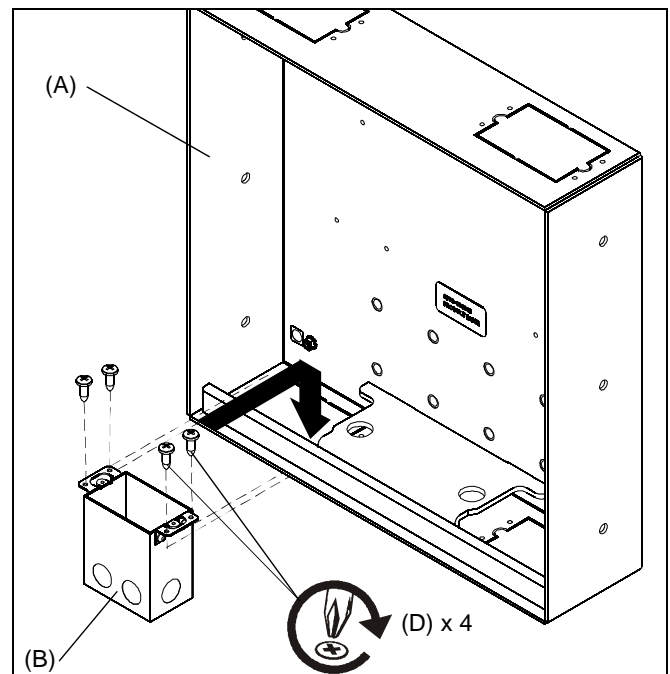

Figure 2
1. Install junction box (B) into the MAC-501 (A) using four 08 x 1/2" Phillips pan head tap screws (D). (See Figure 2)